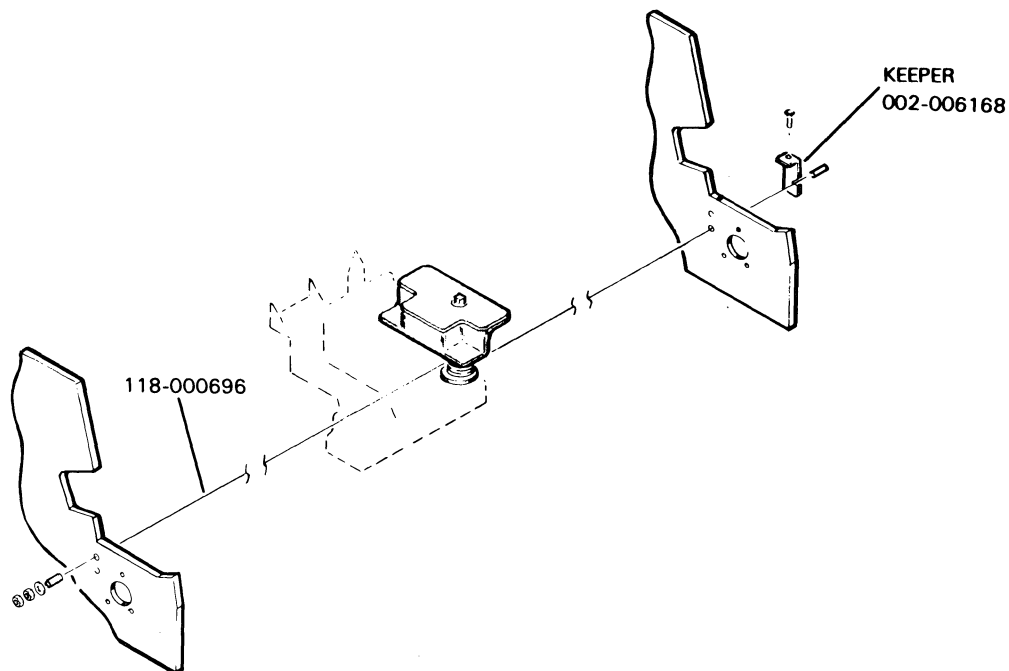

Figure 5.7 Cable Removal
3. Remove screw attaching cable keeper to the right end (see Figure 5.7).